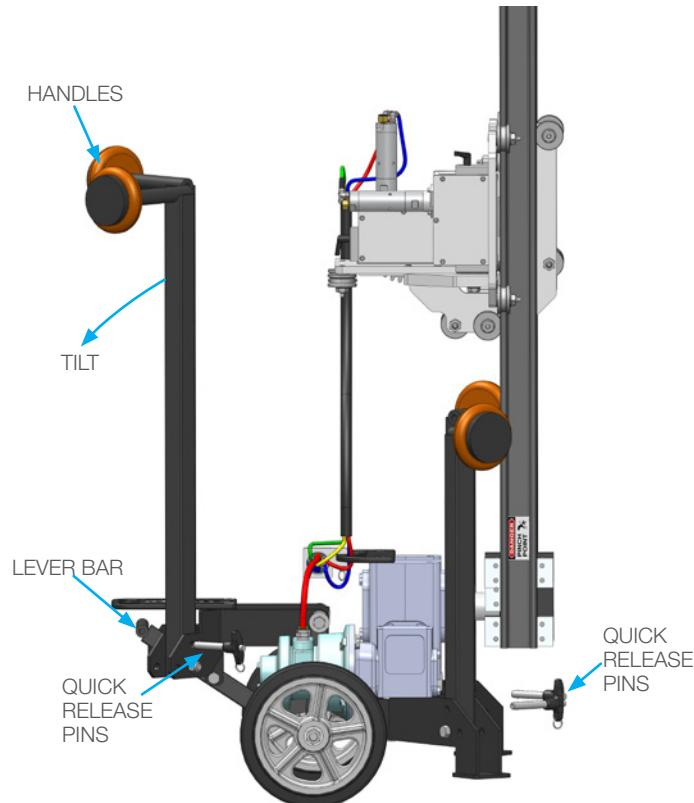

FIGURE 1
1. Lift the Lever Bar up, use the longer legs as handles, tilt the Striker back, and roll into place. Once in place, pull the 4 Quick Release Pins out of the leg assemblies. (**Figure 1**)